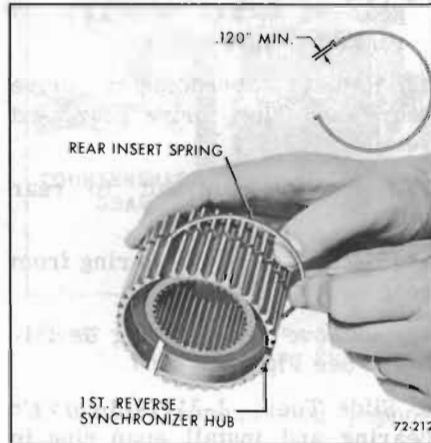

Figure 72-212—Installing Rear Insert Spring
1. Install rear insert spring in groove in first-reverse synchronizer hub. See Figure 72-212.